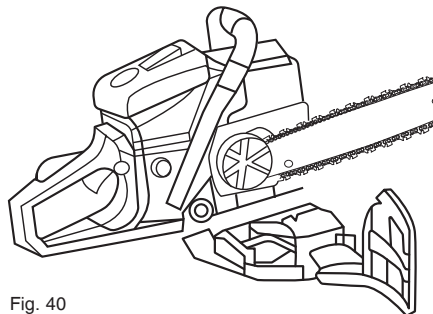

Fig. 40
**NOTE:** Make sure the chain – tensioning pin is in the chain – tensioning pin hole (Fig 40).